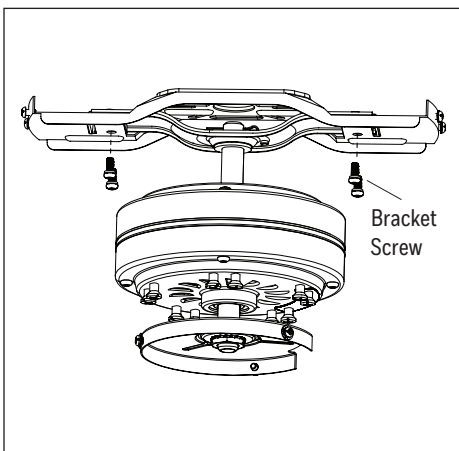

Figure 2.4
4. Reinstall the previously removed bracket screws to secure the lower mounting bracket to the upper mounting bracket (Figure 2.4).